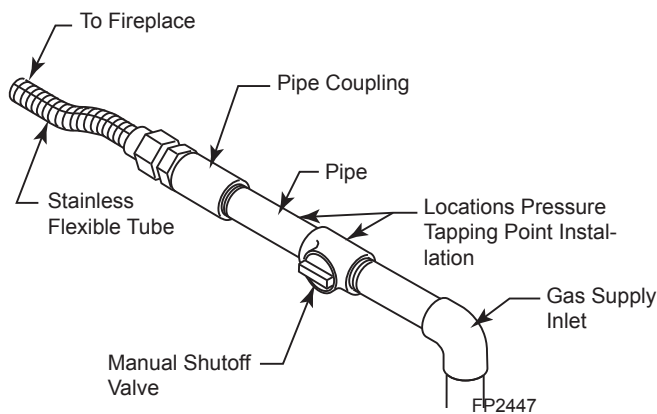

**Figure 12 -
5. Secure the firebox with two anchoring screws (3/16" x 1¼" length) supplied with the fireplace system. *Figure 12*